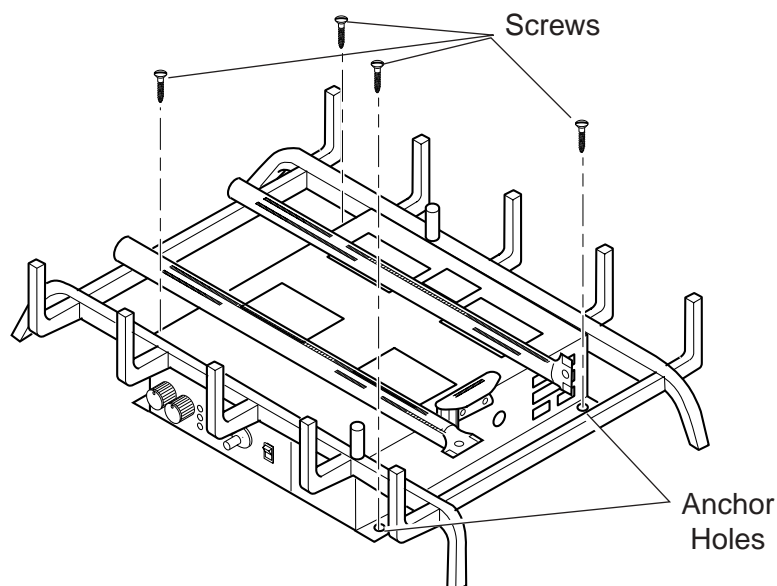

Figure 12 - Securing Heater to Floor of Fireplace/Firebox
2. Anchor holes are located on the right and left sides of the unit. After centering the grate correctly, mark the hole positions on the fireplace/firebox floor. Drill four (4) $\frac{5}{32}$ " diameter holes approximately $1\frac{1}{2}$ " deep.
3. Anchor the unit to the fireplace/firebox floor using the screws provided. *Refer to Figure 12.*